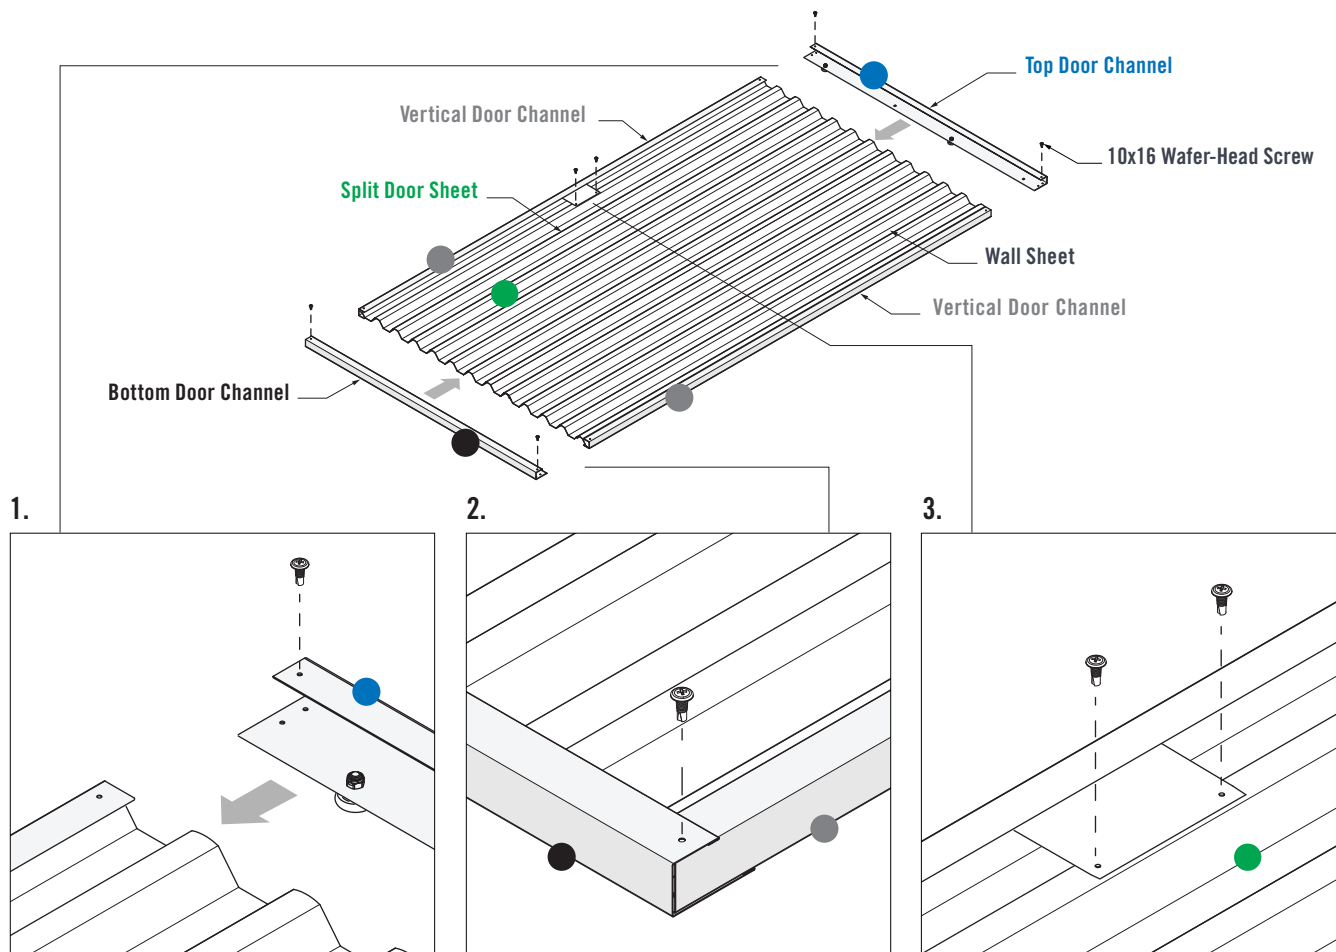

FIGURE 7.5
1. Fit the Vertical Door Channels over the side of the door sheets, then fit the **Top** and **Bottom Door Channels** over the door sheet ends. Ensure the lip of the Top and Bottom Door Channels fit over the Vertical Door Channels (Figure 7.5).
2. Fasten one 10x16 Wafer-Head Screw through the pilot holes in the corner of each **Top** & Bottom Channel and into the Vertical Door Channels (Figure 7.5).
3. Crest-fix two 10x16 Wafer-Head Screws through the pilot holes in the Handle Mount and into the **Split Door Sheet** (Figure 7.5).